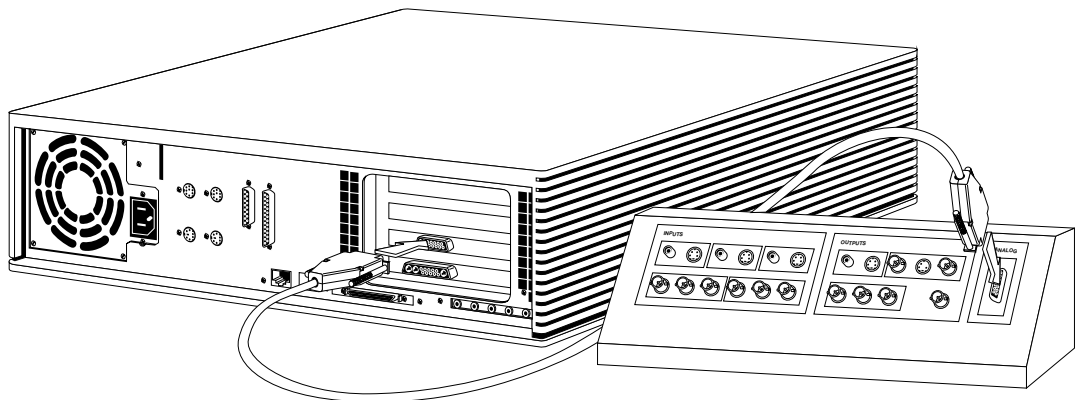

Figure 3-15 Cabling the Galileo Video breakout box
2. Connect the analog cable to the analog connector on the Galileo Video box; connect its other end to the Galileo Video board, as shown in Figure 3-15.